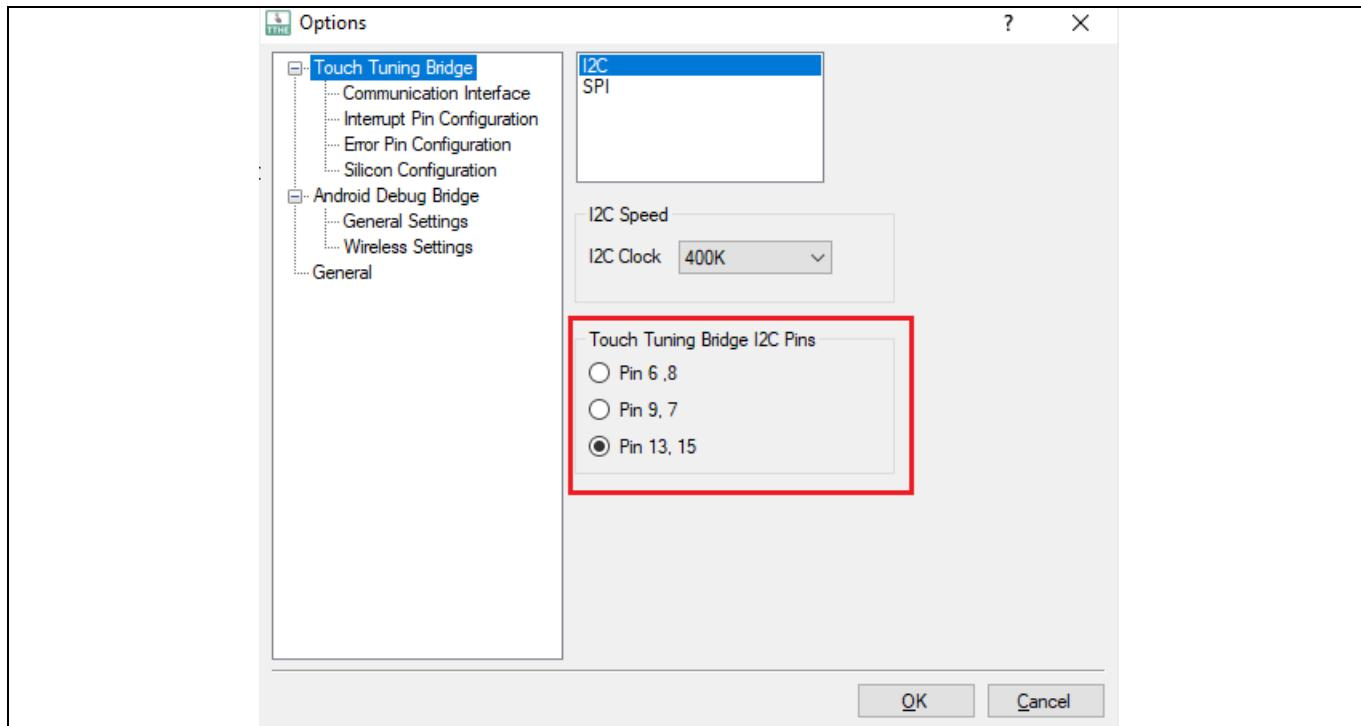

Figure 10 Options window in TTHe
- Select the **Communication Interface** tab on the left. Select **I2C**, as shown in Figure 10, and make sure that the I2C Clock is selected to **400K** and the I2C pins are set to the option **Pin 6,8**. Click **OK**. This step ensures that the I2C pins on the isolation bridge are routed correctly to the I2C pins on the CYAT8168X EVK.